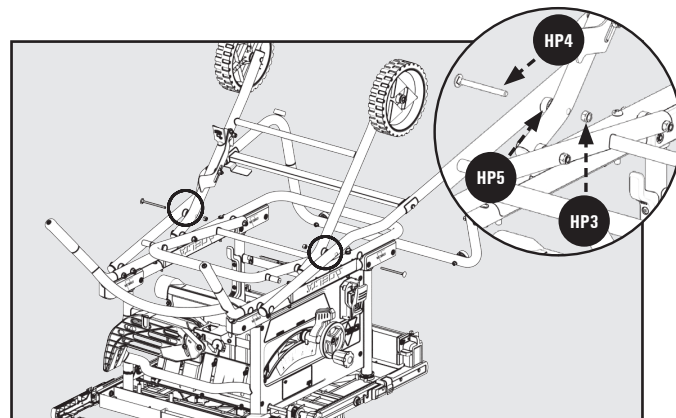

Figure 9
8. Raise the Wheel Assembly section of the Stand to help align the holes with the Leg Assembly (attached in Step 6). Insert M8 Plastic Spacer (HP2) between Legs and secure with M8 x 75mm Carriage Screw (HP4) and M8 Locknut (HP3). Secure using the 13mm Combination Wrench. See Figure 9.